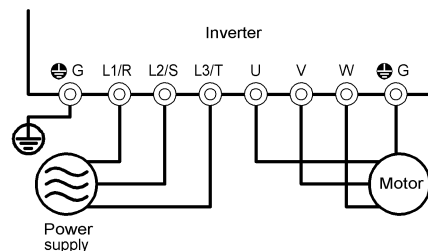

Figure 5.1 Connection of Main Circuit Terminals
- (1) Check that the wiring is correct.
Especially check the wiring to the inverter input terminals L1/R, L2/S and L3/T and output terminals U, V, and W. Also check that the grounding wires are connected to the grounding terminals (G) correctly. See Figure 5.1.